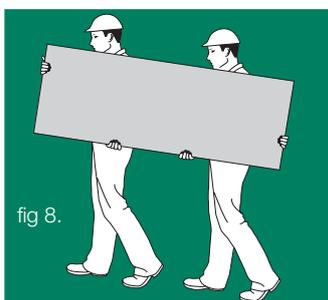

fig 8.
- Carry with two people (figure 8).